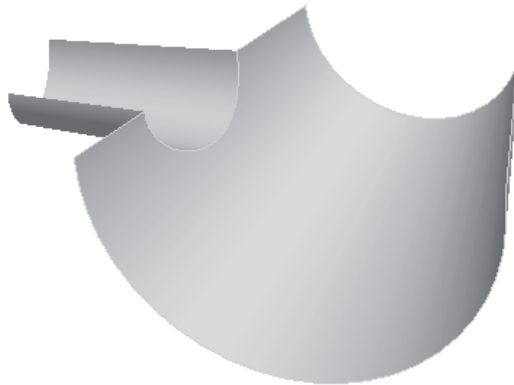

Figure 14-46 Merged surface
3. Choose the **Preview** button and then exit the dashboard. The resulting merged surface is shown in Figure 14-46. This merged surface is a single surface and now can be converted to a solid feature.